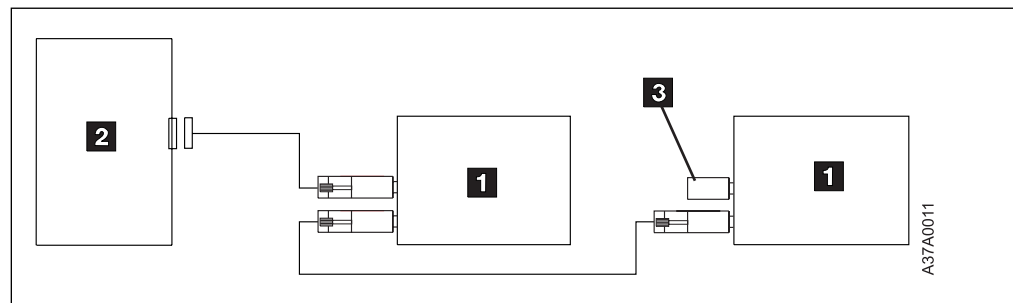

Figure 6. Example of Attaching Multiple SCSI Devices to the System Unit
- If the 7207-122 Tape Drive is part of a multiple-device configuration, connect the cable to the next device (see Figure 6 on page 9).
- If there is more than one device (**1** in Figure 6) attached to the RS/6000 **2**, move the terminator **3** to the last device.